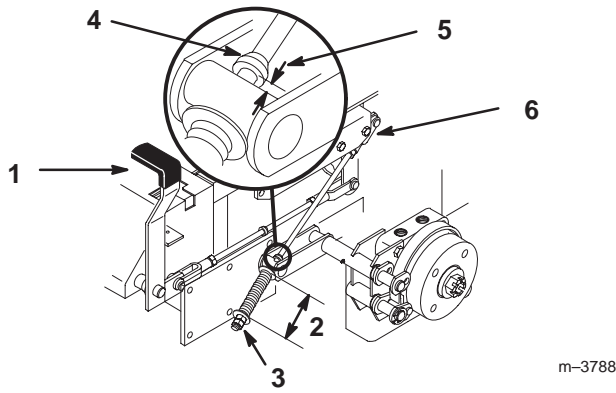

Figure 54
2. Measure the length of the spring. Measurement should be 2.75 in. (70 mm) between washers (Fig. 54).
3. If adjustment is necessary, loosen the jam nut below the spring and tighten the nut directly below the yoke (Fig. 54). Turn the nut until the correct measurement is obtained. Tighten the two nuts together and repeat on opposite side of unit.
- A. Measure the distance between the trunnion roller and the collar on brake rod . Measurement should be 3/16–1/4 in. (5–7 mm) (Fig. 54).
6. If adjustment is necessary, loosen the jam nut directly below the yoke. Turn the bottom rod until the correct measurement is obtained (Fig. 54). Tighten jam nut at yoke